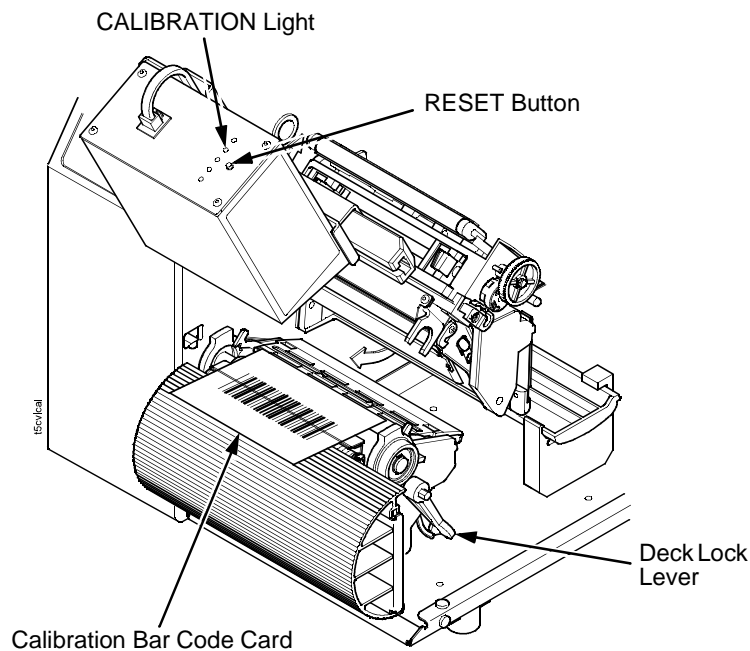

Figure 16. Calibrating the Validator
4. Remove the calibration bar code card from its protective sleeve and slide it into the open printhead and under the scanning beam. (Figure 16.)